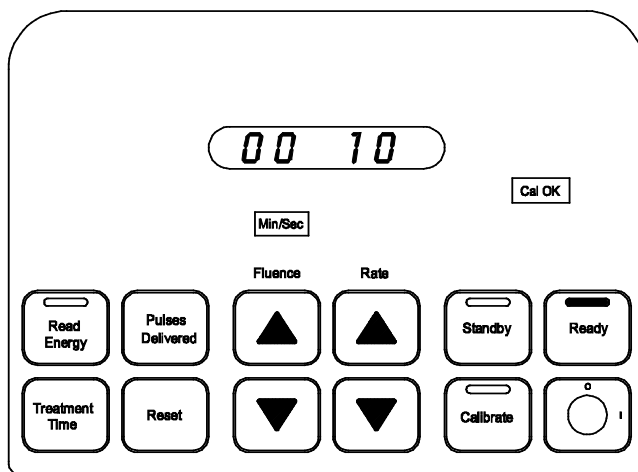

Figure 11
7. While the Excimer Laser System is lasing, the total treatment time is stored. To retrieve the treatment time, stop lasing and depress the **Treatment Time** button. The **Min/Sec** indicator light illuminates and the total treatment time is visible in the display window. (Figure 11)